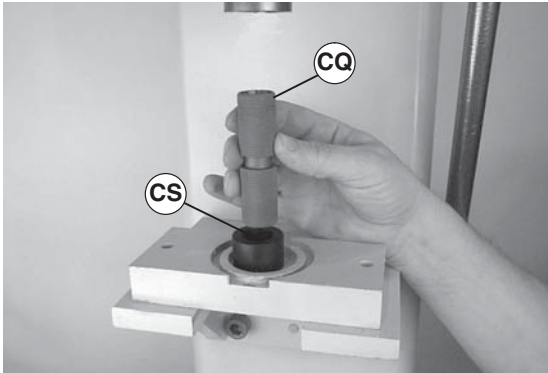

Figure 52
1. Orient bearing anvil/sleeve removal tool (part # 25-09*) (Figure 52, item CS) with cavity facing up and place pulley (CQ) onto tool.